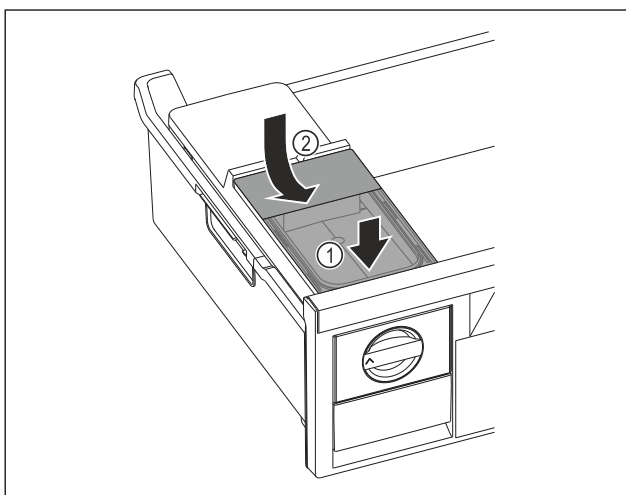

Fig. 152
- ▶ Position the water tank at the front. Fig. 152 (1)
- ▶ Lower the water tank at the rear. Fig. 152 (2)